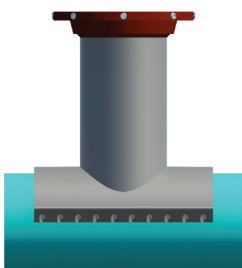

Figure C-3
C.7) Using lift support, position the valve body onto the pipe in the position it is to be installed in so that adjusting of the valve's position is not necessary (see Figure C-3). A level should be used to check the orientation of the valve body flange during positioning. If repositioning is necessary lift the valve body off the pipe and retry. Do not rotate the valve body once it is on the pipe as this can cause damage to the gasket.